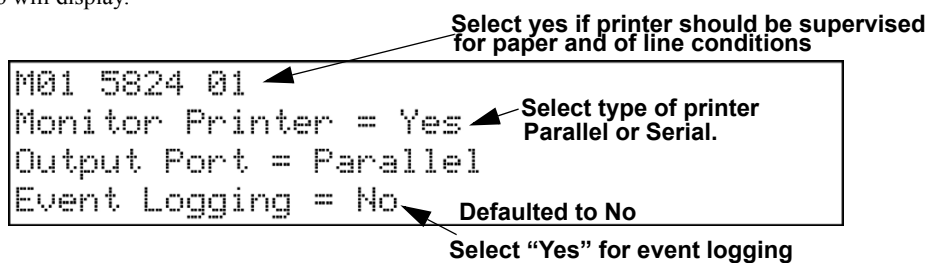

Figure 4.36 Selecting Printer and Output Port Options
5. Press right arrow twice to skip over the Enter Module ID and Enter Module Name options. A screen similar to the one shown in Figure 4.36 will display.